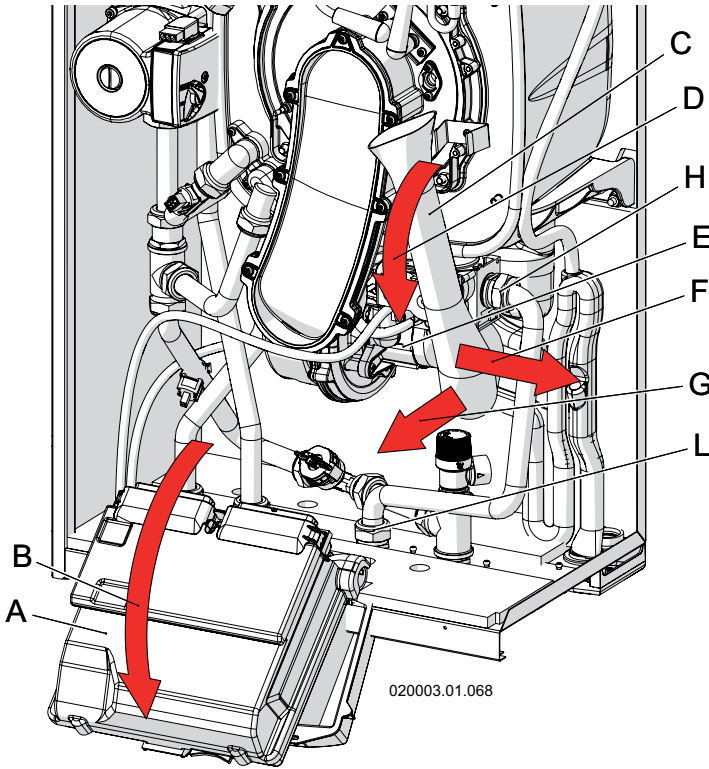

Figure 6-3 - Removing the air manifold
- 13 - remove the air manifold making sure to turn it externally and then slide it out of the fan inlet (see figure 6-3, detail "C");
- 14 - remove the gas inlet pipe by the two fittings (see figure 6-3, details "H" and "L");
19. - remount the gas supply pipe by the two fittings (see figure 6-3, details "H" and "L");
20. - remount the air manifold (see figure 6-3, detail "C");